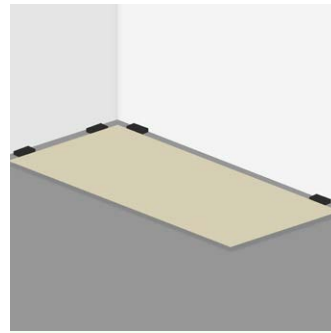

Fig. 1
2. Lay the first tile with the tongue side facing the wall. Place 5 mm spacers between the tile and the wall to create an expansion gap (fig. 1).